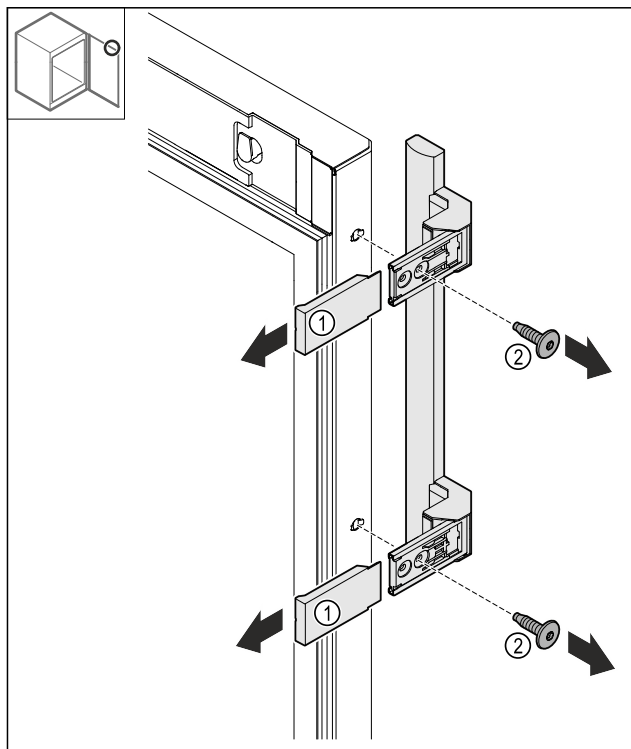

Fig. 25
- Pull off the Fig. 25 (1) covers.
- Loosen the Fig. 25 (2) screws.